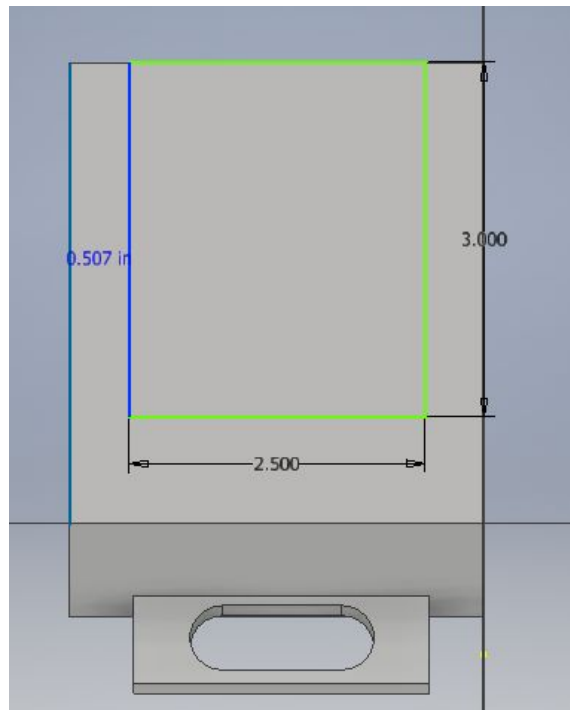

Figure 3-4
8. Next, create a rectangle on the top of the box that follow the dimensions in figure 3-4 the rectangle will need to be centered. Also, extrude it downwards 3.5 inches. This is where the circuit will go.